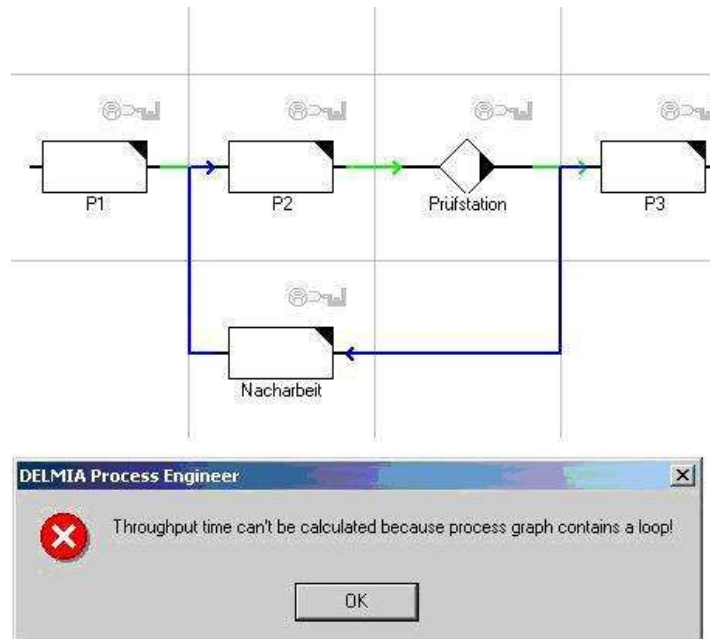

Figure 138: Example – No Critical Path due to a Loop in the Process Sequence
- The line marked in blue designates the loop that continues to be passed through during the calculation. Please refer to the Figure 138.